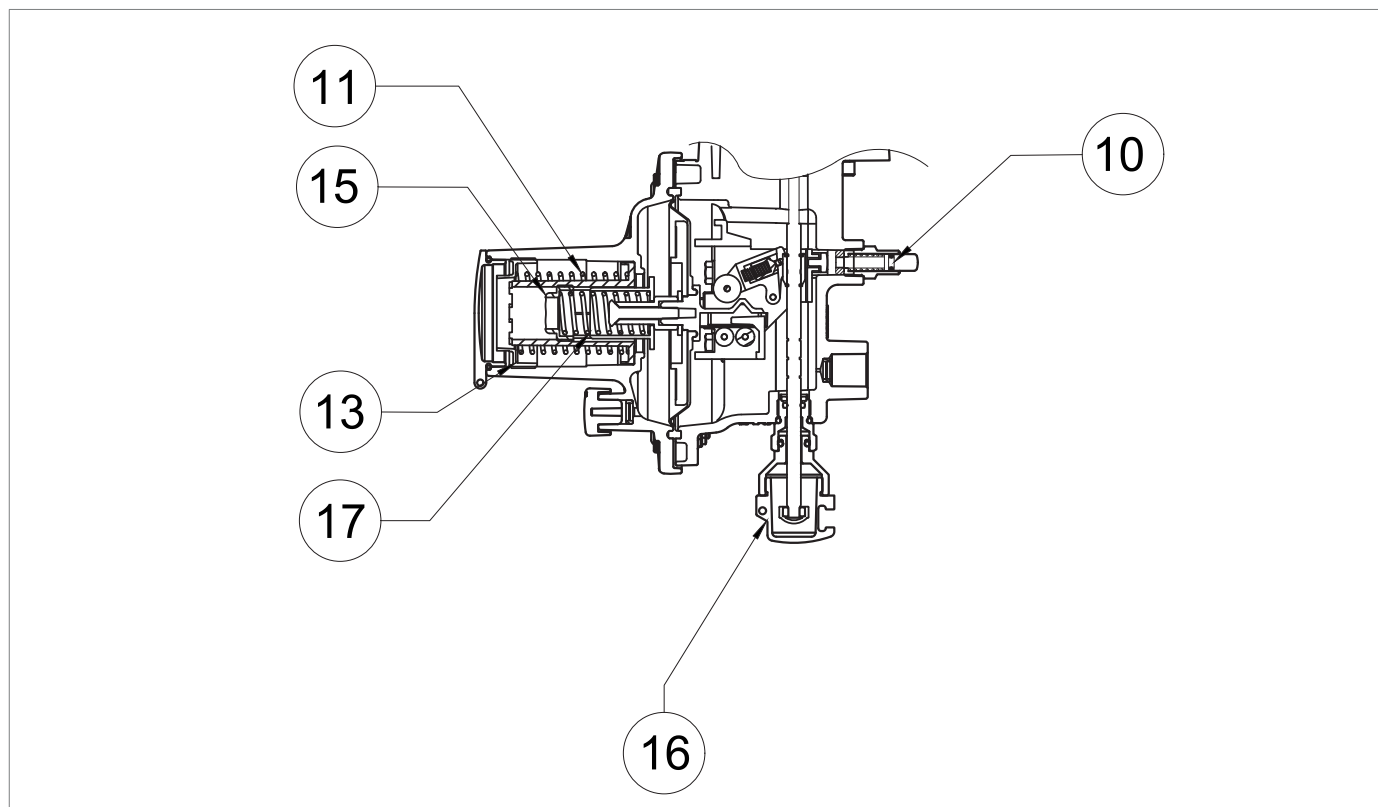

Fig. 8.26. LA Slam-shut valve calibration
4	<p>If the slam-shut valve:</p> <ul style="list-style-type: none"> trips before the expected pressure value: unscrew (counterclockwise direction) the adjustment ring nut (fig. 8.20, ref. 3) so as to unload the spring (fig. 8.26, ref. 17); does not trip at the expected pressure value: screw (clockwise) the adjustment ring nut (fig. 8.20, ref. 3), so as to compress the spring more (fig. 8.26, ref. 17).
6	Open the slam-shut valve by acting on the reset knob (fig. 8.26, ref. 16) and keep it open manually.
8	Arming the slam-shut valve by acting on the reset knob (fig. 8.26, ref. 16).